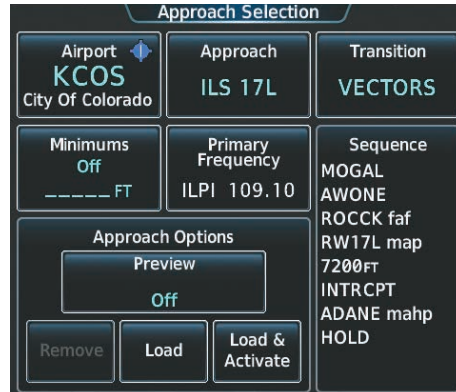

Figure 5-181 Approach Selection Screen
- b) Touch the **Approach** Button to display the Approach Selection Screen with KCOS selected as the destination airport as shown in Figure 5-181.